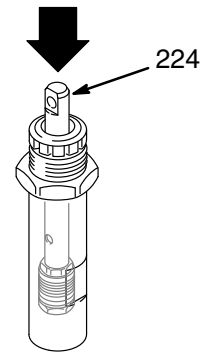

Fig. 18
4. Tap the piston rod (224) out of the cylinder. See Fig. 18.